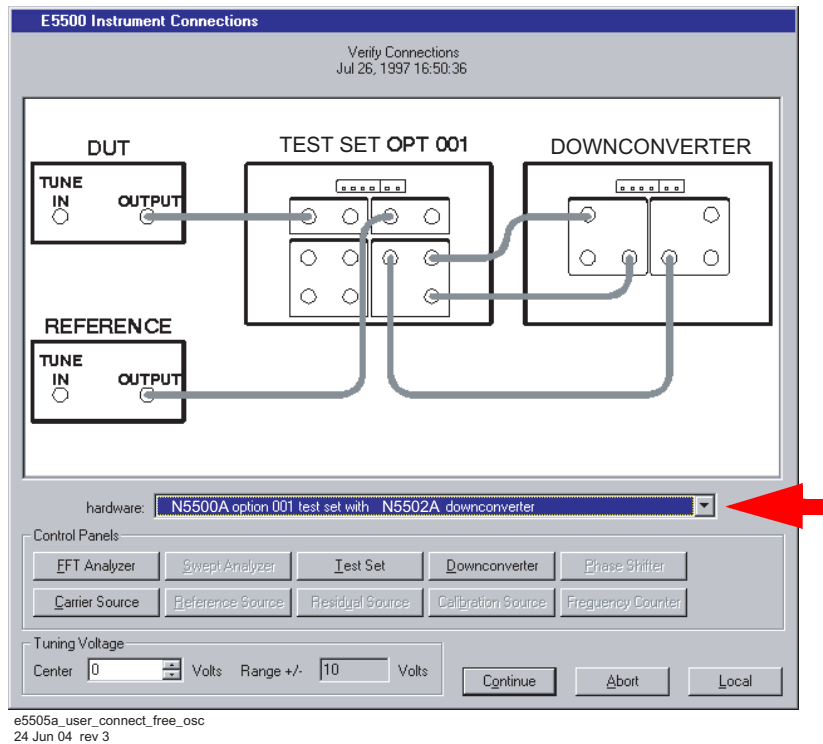

Figure 140 Connect diagram for the microwave source measurement
- 3 When the **Connect Diagram** dialog box appears, click on the hardware drop-down arrow and select your hardware configuration from the list. See Figure 140 on page 193.